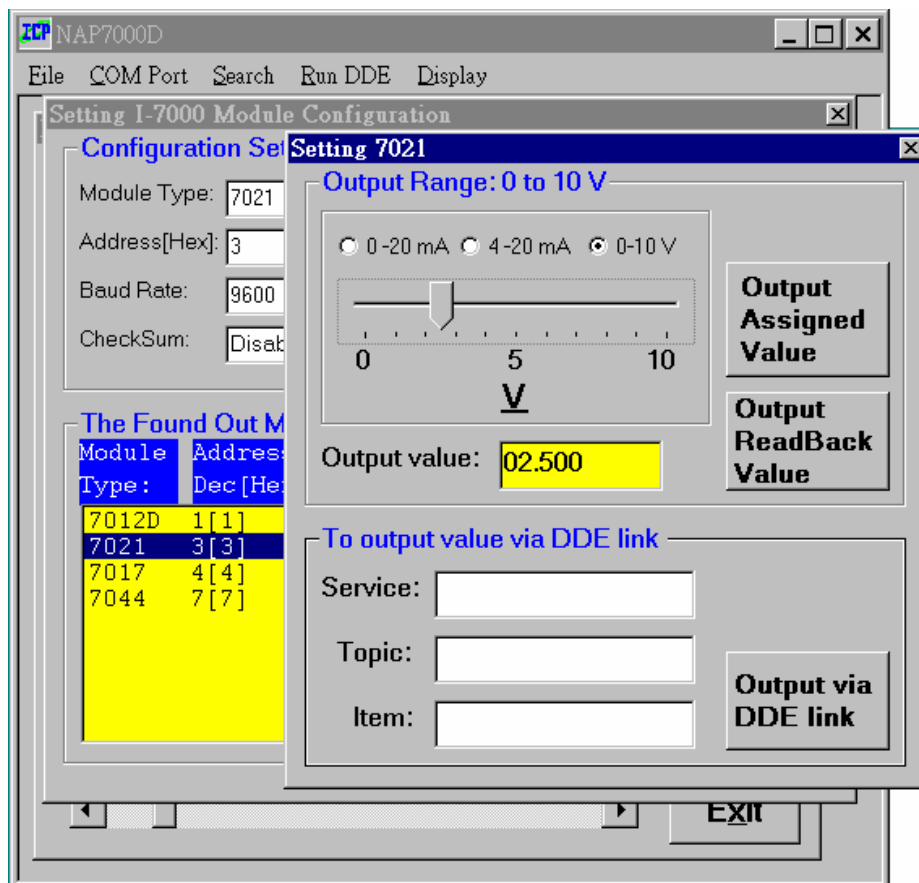

Fig 2-17 The *setting 7021* window.
Step 2: Select the module type as Fig 2-10 shown. In this case, please select 7021. After selecting 7021, then a window titled *setting 7021* will pop up as fig 2-17 shown.
There are three command buttons in Fig 2-17, those are ***Output Assigned Value***, ***Output ReadBack Value*** and ***Output via DDE link***. It means that the desired output value(voltage) for CB-7021 can be given with 3 ways as following: